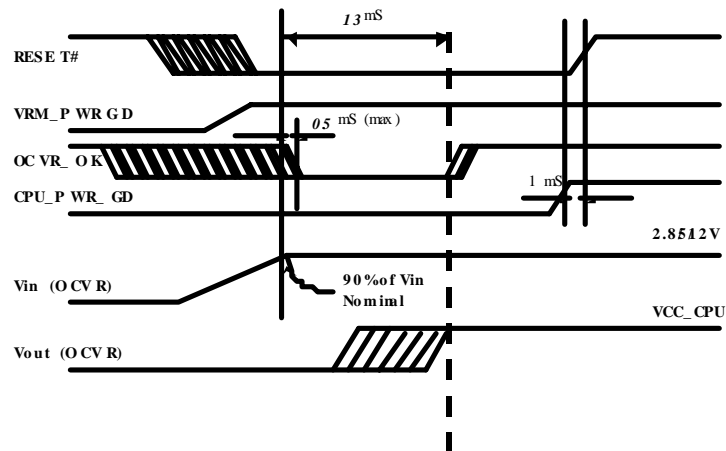
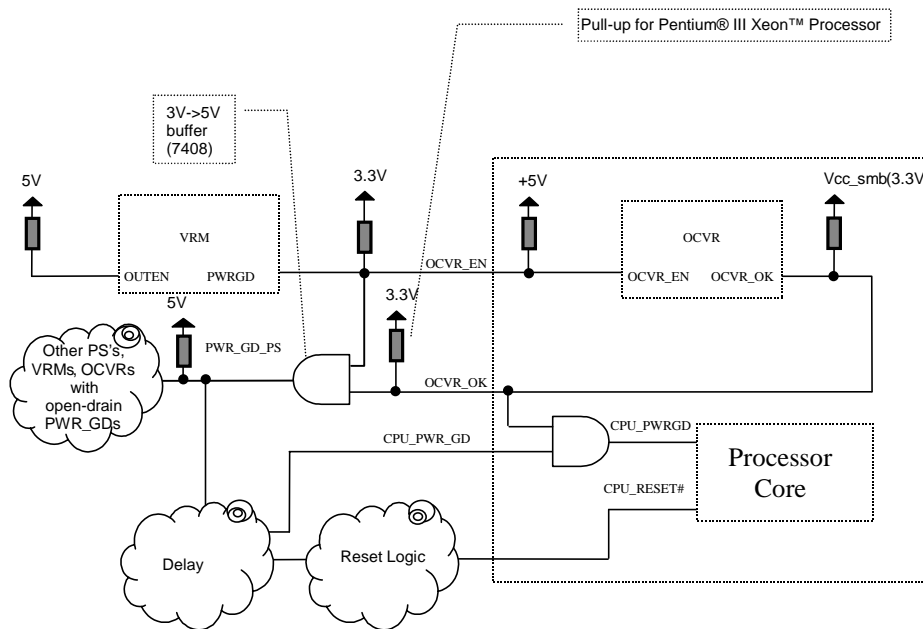

Figure 41. PWRGD Relationship at Power-On
Figure 42. PWRGD Implementation
This signal is the output enable for the internal cartridge voltage regulator. Driving this Low will inactivate the outputs of the OCVR. This is an open drain signal referenced high to +5V through a 10K ohm resistor within the cartridge to activate the VRM when not driven low (this to satisfy legacy requirements). Refer to Figure 41 and Figure 42 For PWRGD relationships at Power up.
This is an open drain compatible output from the On-Cartridge Voltage Regulator Module (OCVR) indicating that its outputs are enabled and operating within specifications. This signal is referenced to VCC_SMB (+3.3V) through a 10K ohm resistor, and should be used in conjunction with an equivalent signal from the host power system to generate the CORE_PWRGD signals for the processor cores. Refer to Figure 41 and Figure 42 for PWRGD relationships at Power up. PWRGD assertion must lag OCVR_OK assertion.
The (Power Good) signal is a 2.5V tolerant processor input. The processor requires this signal to be a clean indication that the clocks and power supplies (VCC_CORE, VCC_L2, VCC_TAP, VCC_SMB, VCC2.5) are stable and within their specifications. Clean implies that the signal will remain low (capable of sinking leakage current), without glitches, from the time that the power supplies are turned on, until they come within specification. The signal must then transition monotonically to a high (2.5V) state. Figure 41 illustrates the relationship of PWRGD to other system signals. PWRGD can be driven inactive at any time, but clocks and power must again be stable before a subsequent rising edge of PWRGD. It must also meet the minimum pulse width specification in Table 13 and be followed by an 8 mS RESET# pulse.
Current VRM 8.3 (on baseboard) specification requires VRM_PWRGD to be asserted when its output is within 12% of nominal value. In the 600MHz+ Pentium III Xeon processor, PWRGD is logically ANDed with OCVR_OK before being applied to the core (PWRGD_CORE). According to legacy EMTS documents, RESET# negation is expected 1 mS after seeing PWRGD_CORE becoming valid by the processor core. The OCVR is not expected to provide a valid OCVR_OK signal assertion within 13 mS of seeing 90% of its input voltage. The delay before the assertion of OCVR_OK may cause a race condition between RESET# and the valid PWRGD_CORE that is seen at the core. It is recommended to relax the deassertion of RESET# to meet this critical constrain. Careful analysis needs to be done in existing platforms. Refer to Figure 41 and Figure 42 below for new timing relationship requirements.
1. VCC_CORE must be applied to the OCVR input before OCVR_OK can become valid (even though it could be pulled high if the VCC_SMB supply is turned on, see figure 41).